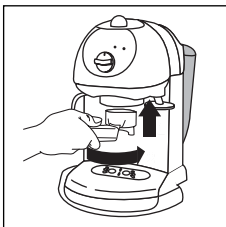

fig. 6
2. Attach the empty filter holder (without coffee) to the machine by positioning it under the boiler outlet with the handle towards the left (fig 6). Push upwards and at the same time turn the handle as far right as possible. It does not matter if the handle is not centrally aligned with the machine, as long as the filter holder is firmly attached to the appliance.
3. Remove any excess coffee from the rim of the filter holder. Attach the filter holder to the machine by positioning the handle to the left of the boiler outlet, then pushing upwards and turning the handle to the right (as in preheating the machine fig. 6).